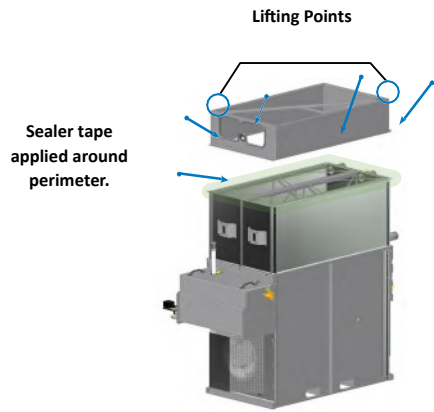
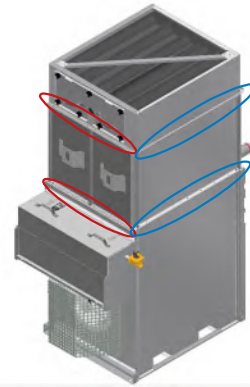

Figure 5. Attaching the Spray Section to the Module
Figure 6. Fastener Type for the Spray Section Assembly
2. **For Figure 1c Only:** Apply sealer tape to top of the hCore Heat Transfer Technology section per **Figure 5**. Overlap the sealer tape 1 inch in the corners. The spray section can then be lifted and attached on all four sides to the lower section using factory-supplied fasteners. Note the fastener type varies on location and unit material of construction. See **Figure 6** and **Table 3**.